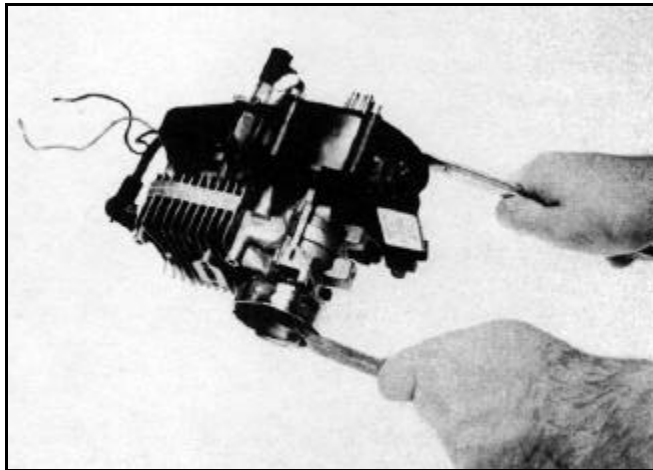

Figure 227
4. Anchor the starter cup with Toro Multi-Purpose Tool #45-1390 and remove the flywheel nut with a 3/4" open end wrench (Figure 227).